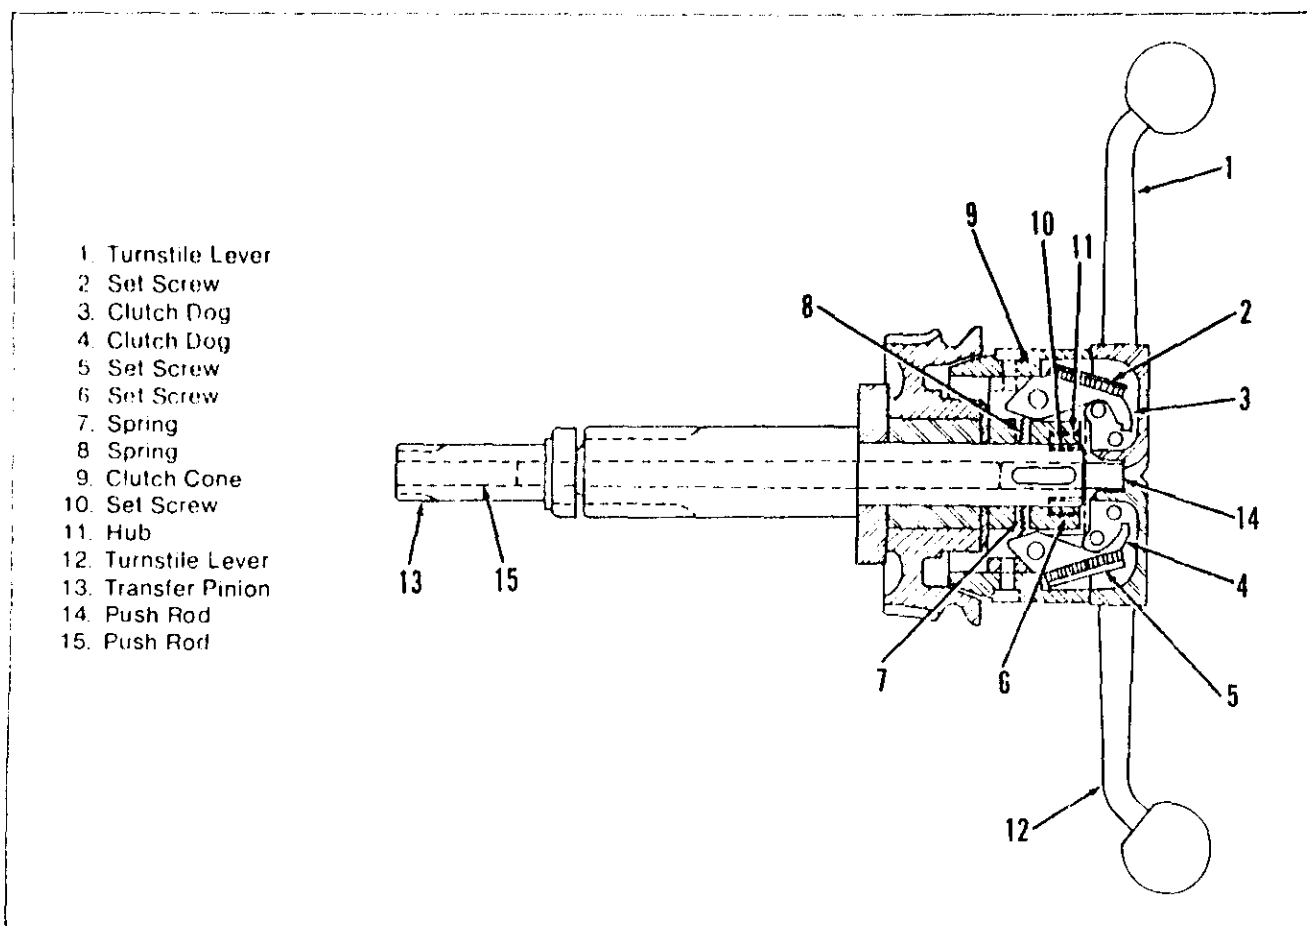
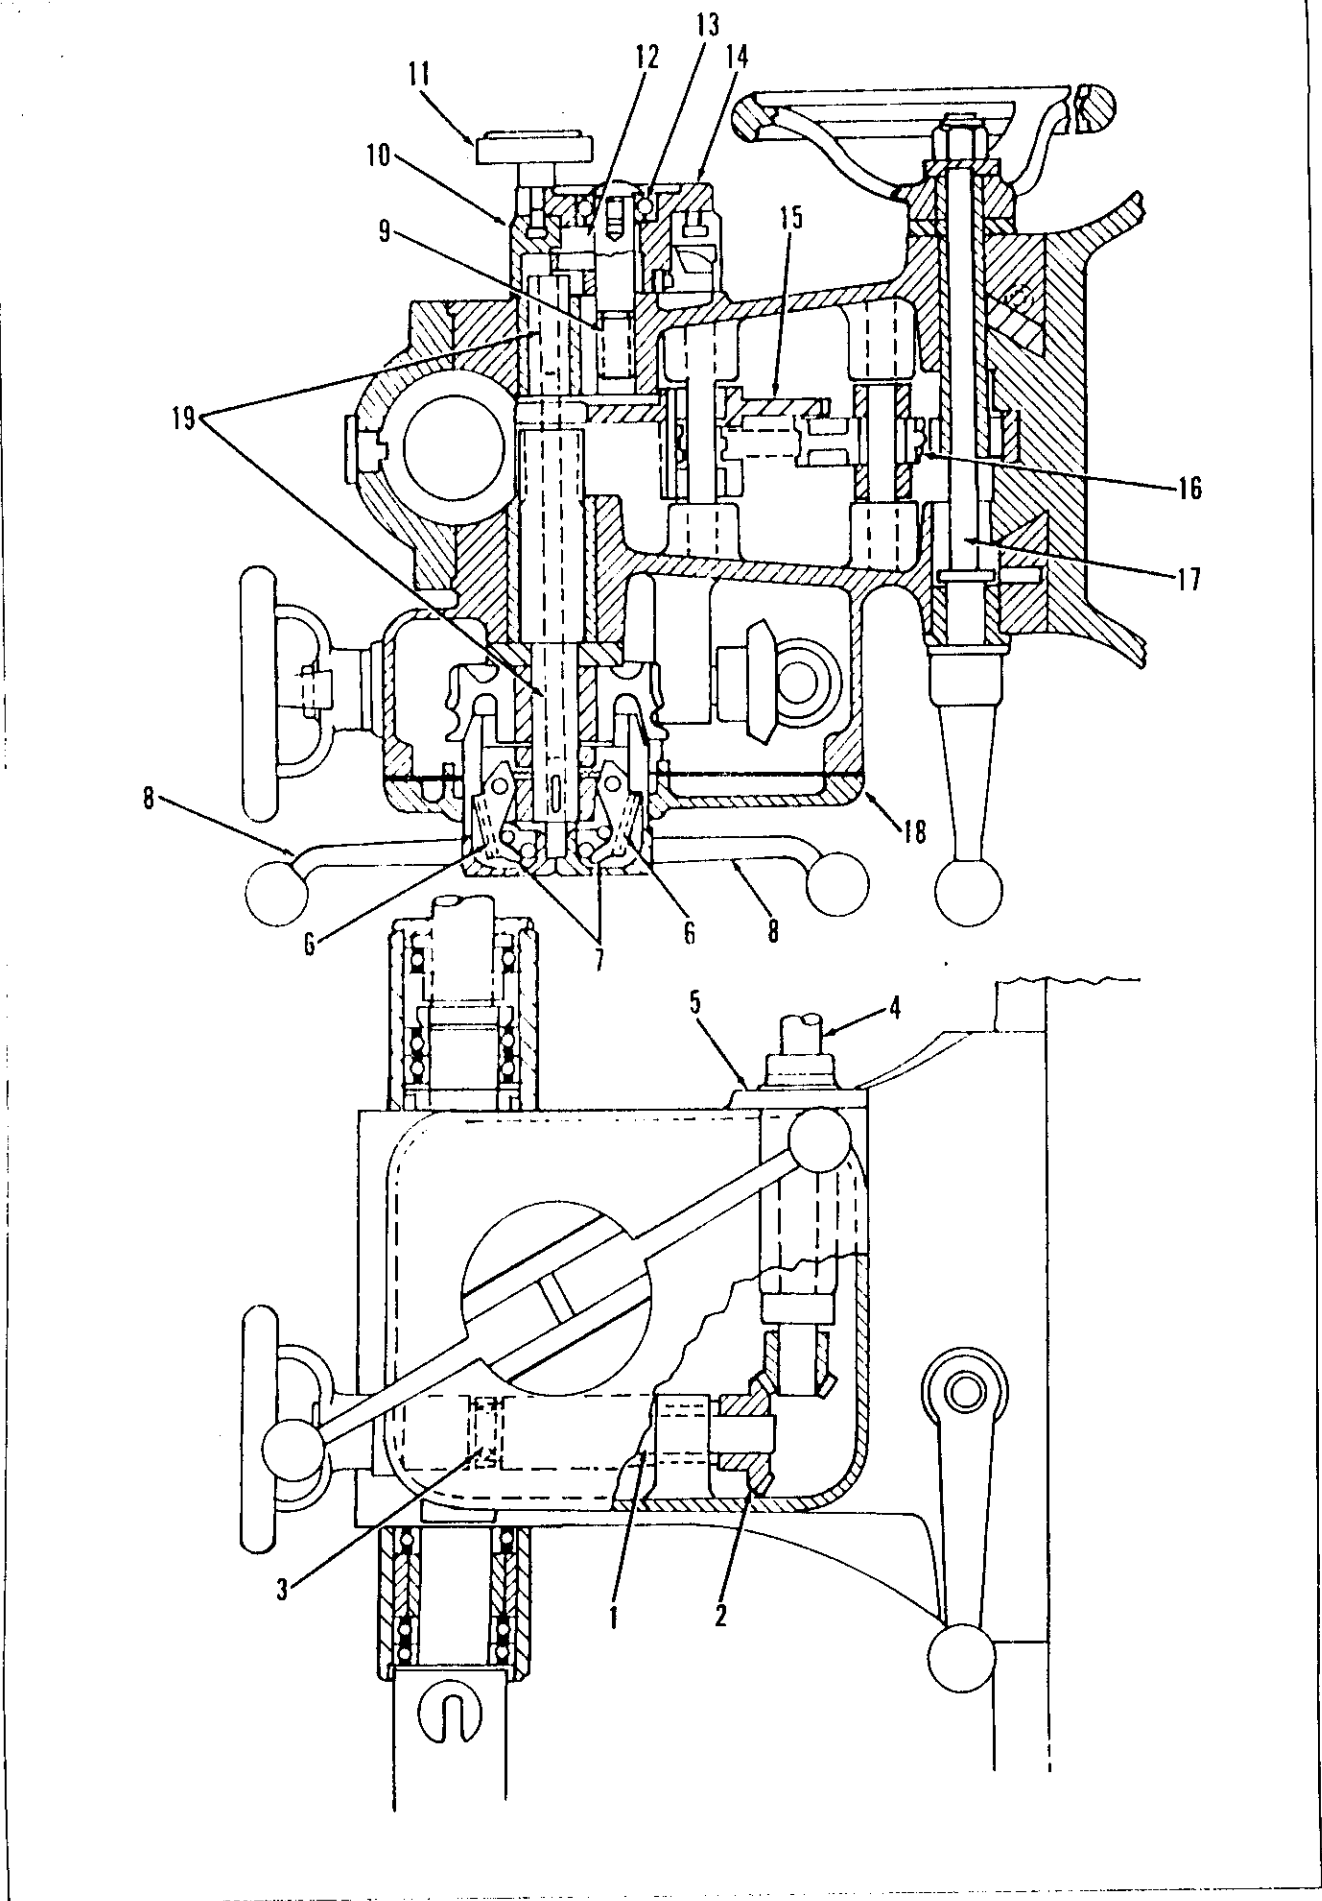

Figure M-5. Cross Spindle Assembly
Figure M-6. Sliding Head
8. Remove one of the turnstile levers (1 and 12, Figure M-5) and remove the screws and the cover (24, Figure M-6).
11. The cross spindle, worm gear and feed clutch assembly may then be removed as a unit. Push out the transfer pinion (13, Figure M-5).
### CROSS SPINDLE DISASSEMBLY (Figure M-5)
### CROSS SPINDLE REASSEMBLY (Figure M-5)
## FEED DIAL ASSEMBLY (Figure M-6)
3. With spindle down near the end of rack travel, insert transfer pinion (13, Figure M-5) into the head and install the cross spindle assembly. Move spindle to the same location as when depth dial was removed and marked and re-install the depth dial.
### LEGEND Figure M-6
- b. Be sure the push rods (19, Figure M-6) are in place in the cross-spindle.